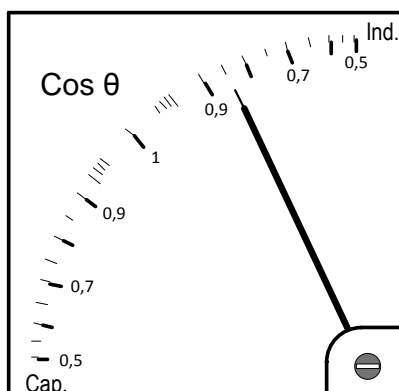

FIGURE 4.4: POWER FACTOR METER
- 4.4 FIGURE 4.4 below shows an analogue power factor meter. Answer the questions that follow.